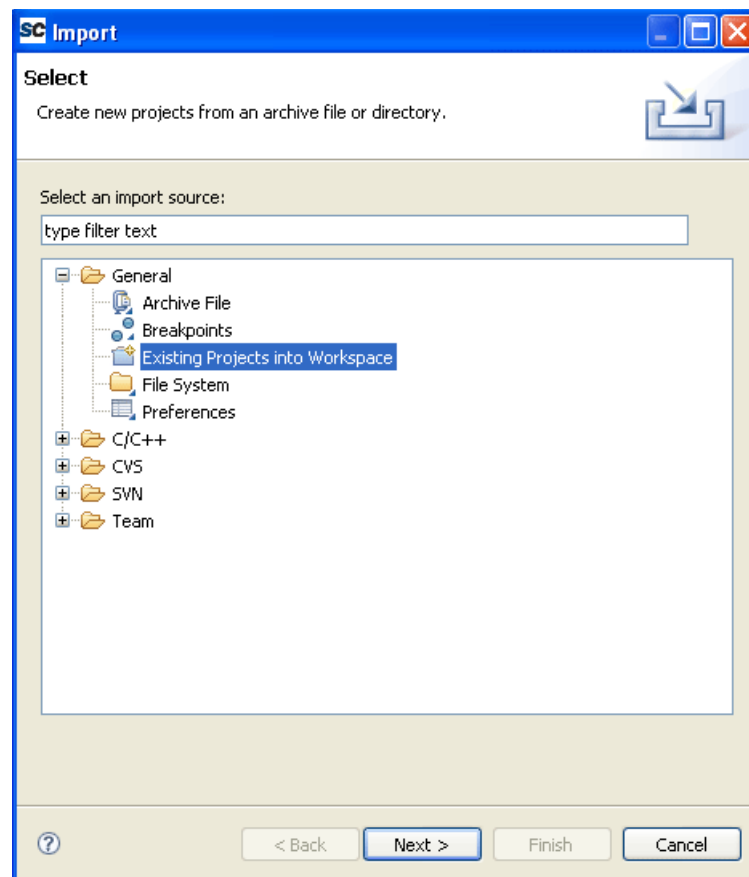

Figure 3-6 · Selecting Projects as the Type of Entity to Import
1. From the **File** menu, choose **Import**. The Import box opens (Figure 3-6).